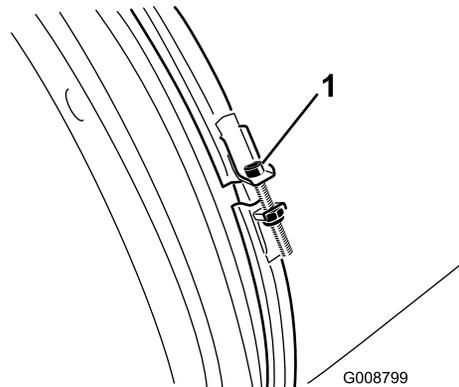

Figure 37
2. Check the blower-nozzle clamp for signs of wear or damage (Figure 37).
3. Check the blower-nozzle clamp daily to ensure that it is tight (Figure 37).